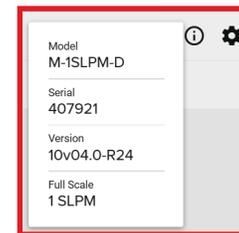

Figure 11. Device information.
- To obtain information on the device (Model, serial number, firmware version, and full scale range), click the information button in the top right hand of the tab (figure 11).